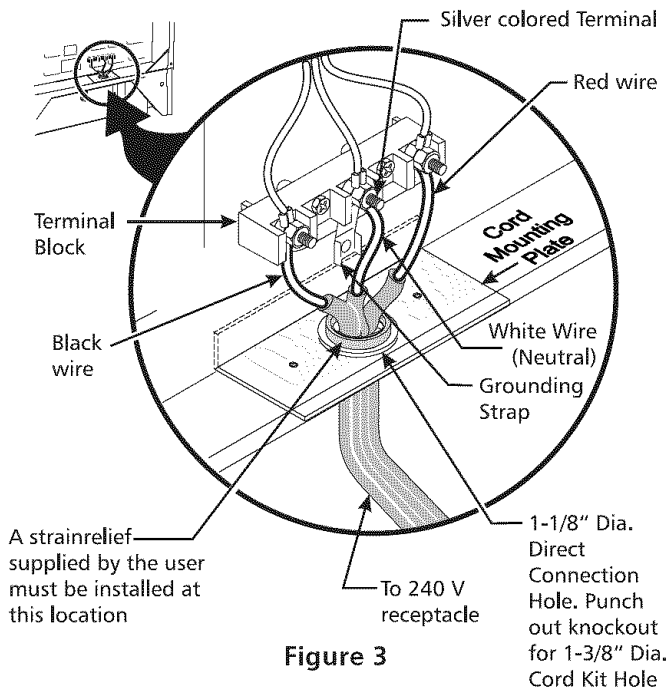

Figure 3
NOTE: Electric Slide-in Range is shipped from factory with 1-1/8" dia. hole as shown in figure 3. If a larger hole is required, punch out the knockout.
If local codes permit connection of the frame grounding conductor to the neutral wire of the copper power supply cord (see Figure 3):
4. Replace the 3 nuts on the terminal block (see Figure 3).